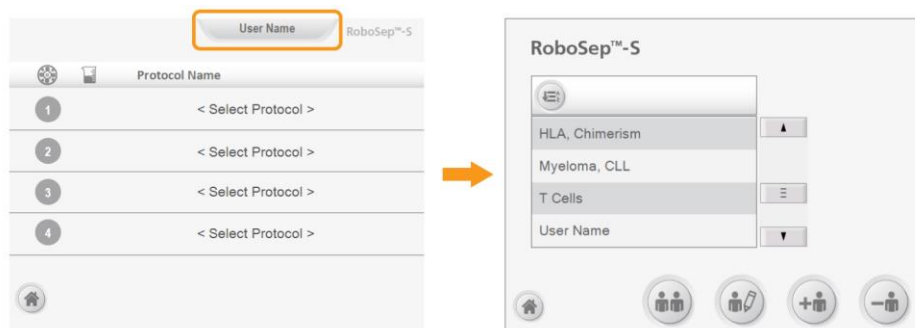

Figure 15. Accessing the User Profile Screen from the Run Samples Screen
To access user profiles, select  [Users] on the Home screen or simply select the User Profile tab at the top of the Run Samples screen. All RoboSep™-S user profiles will be listed in the User Profile screen (Figure 15).
1. Select  [Add user profile] from the User Profile screen (Figure 15).
1. Select  [Copy user profile] from the User Profile screen (Figure 15).
1. Select  [Delete user profile] from the User Profile screen (Figure 15).